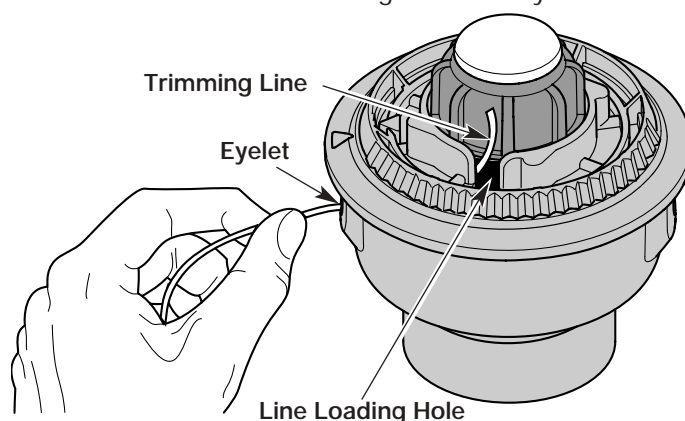

Fig. 42
3. Pull old line out of the line loading and line locking holes (Fig. 42 and 43).
4. Insert a piece of trimming line straight into one of the two eyelets in the outer spool. Push it up through the line loading hole in the inner reel (Fig. 42). Do not bend the line when inserting it into the eyelet.